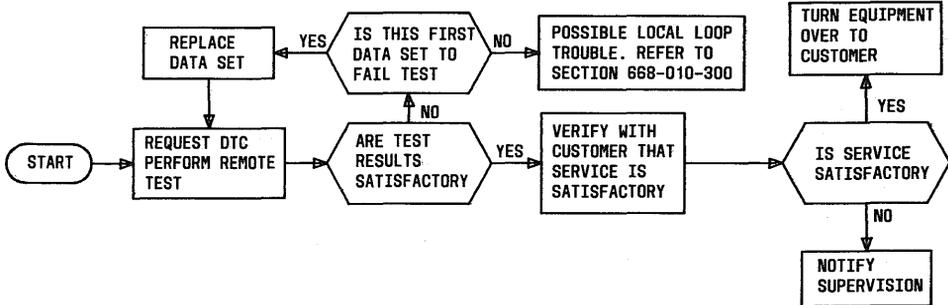

Fig. 2—Installation Test Sequence
**2.02** Refer to Fig. 2 for the sequence of tests to be performed to verify proper installation.